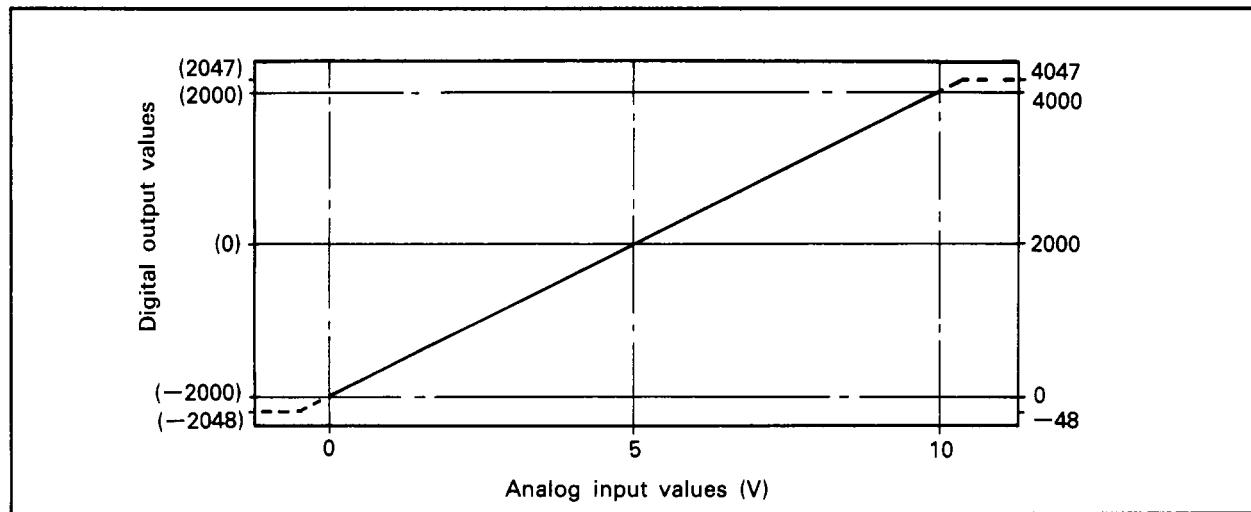

Fig. 3.6 A616TD I/O Characteristics
The A616TD analog input range is fixed from 0 to +10V. The I/O characteristics are shown in Fig. 3.6.
- 1) The digital output values can be selected from two output data formats: in the range -48 to 4047 or -2048 to 2047. The output data format can be specified for each channel independently. (Refer to Section 6.2.1 (1) for details.)
- 2) The maximum resolution and overall accuracy values lie within the ranges shown in Table 3.4, when the input voltage is in the 0 to 10V range. However, the maximum resolution and overall accuracy values may not lie within these ranges if the input voltage exceeds the 0 to 10V range. Use of the sections of the A616TD I/O characteristic curve shown as a broken line in Fig. 3.6 should be avoided as the accuracy value may not comply with the table in these regions.